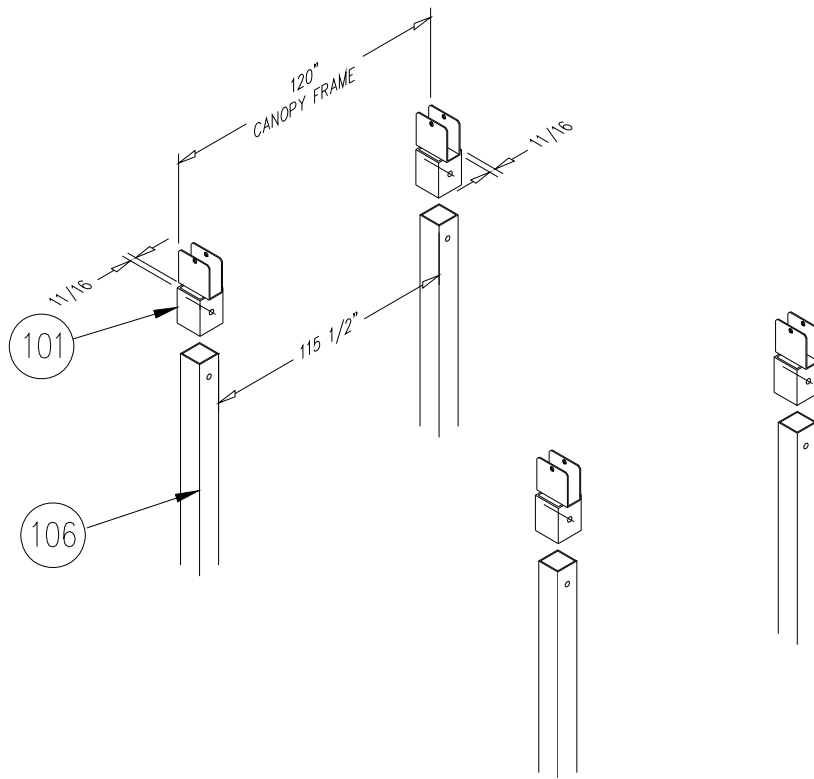

Figure 2-3
1. Refer to **Figure 2-3**. Install canopy adapter to the canopy extension legs. The post legs are predrilled for the canopy adapter.